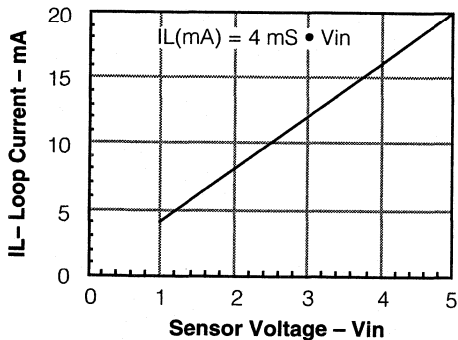
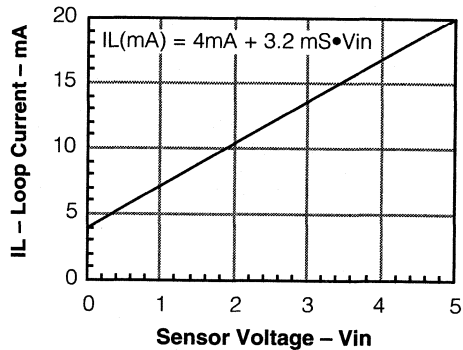

Figure 4. 1-5 V to 4-20 mA current loop transfer
Figure 5. 0-5 V to 4-20 mA current loop transfer
+4 volt span. Figure 4 shows the transmitter's output loop current as a function of input sensor voltage. Other conventions include sensor signal spans of 5 volts, where the sensor's zero reference is 0 V, and full scale is +5 volts (Figure 5).
Figures 4 and 5 show the transmitter transfer function. The loop current (IL) is the product of the sensor voltage (Vin) times the transmitter transconductance, milli-Siemens. The receiver in Figure 4 has a transresistance of 250 Ω, while for Figure 5 it is 312.5 Ω.